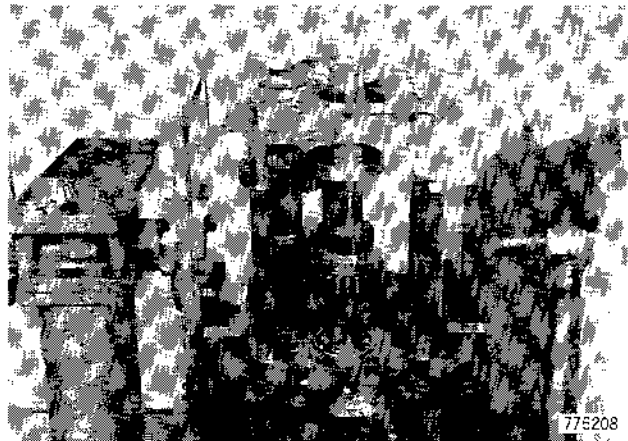

Figure 257
- 43. Remove separator plate, Figure 257.